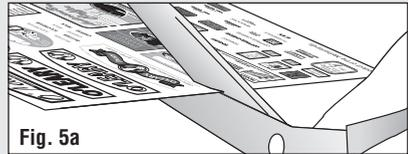

Fig. 5a
- Cut out desired Decal, leaving a slight edge (Fig. 5a).